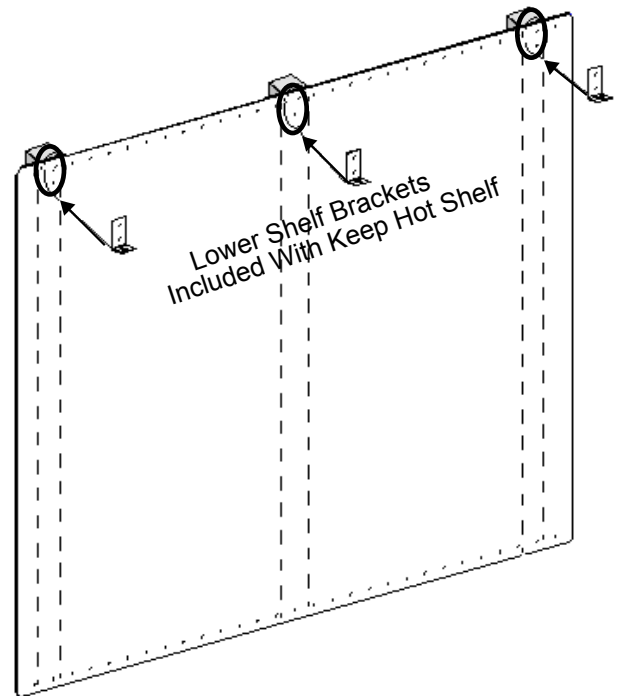

FIGURE 16: BACKSPLASH WITH A KEEP HOT SHELF
3. At the locations indicated in *Figure 16*, mount the lower shelf brackets included with the Keep Hot Shelf through the Backsplash and into the wall studs.